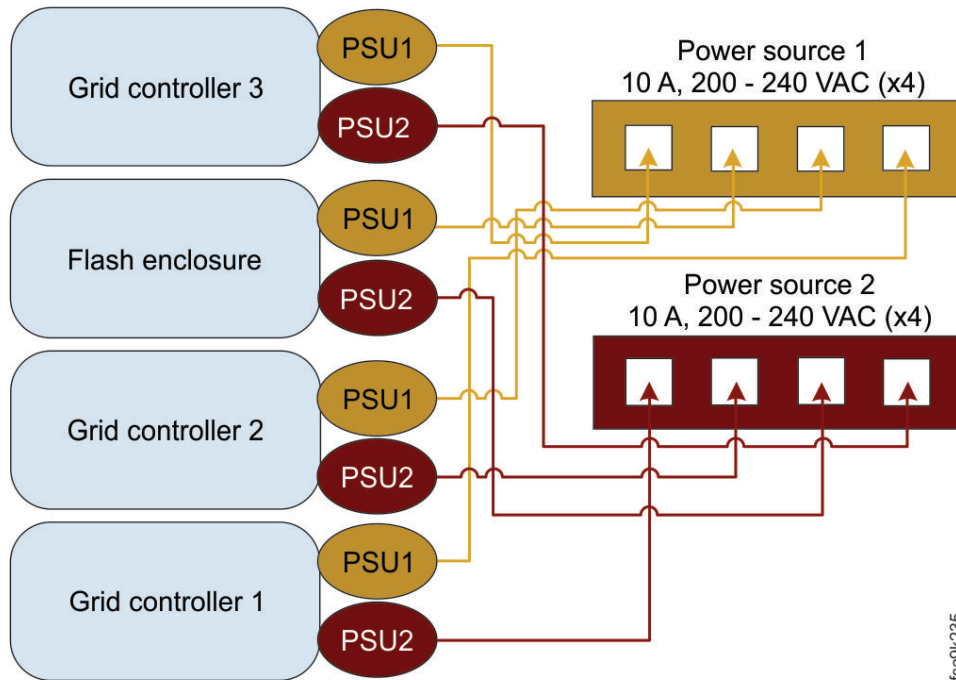

Figure 11. FlashSystem A9000 power sources
Two independent customer-supplied power distribution units (PDU) are required for the two power cords that are needed by each component in the system (total of eight outlets, four per PDU), as depicted in Figure 11 on page 25.
- To eliminate a single point of failure, the PDUs must be independent. This means that each PDU must use a separate power source and each power source must have its own wall circuit breaker (see Figure 11 on page 25).
A FlashSystem A9000 system requires two independent power sources, with minimum four (4) 10 A, 200 – 240 VAC outlets (as seen in Figure 11).